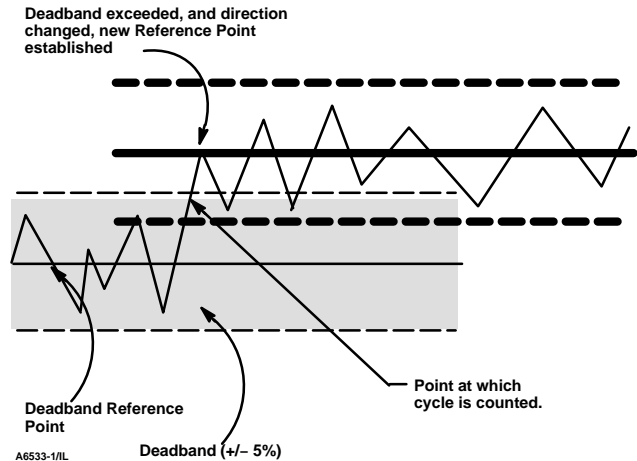

Figure 4-5. Cycle Counter Deadband (set at 10%)
- **Cycle Count DB**—Cycle Counter Deadband is the area around the travel reference point, in percent (%) of ranged travel, that was established at the last increment of the Cycle Counter. This area must be exceeded before a change in travel direction can be counted as a cycle. See figure 4-5.
- **Cycle Count**—Cycle Counter records the number of times the travel changes direction. The change in direction must occur after the deadband has been exceeded before it can be counted as a cycle. See figure 4-5. You can reset the Cycle Counter by configuring it as zero.